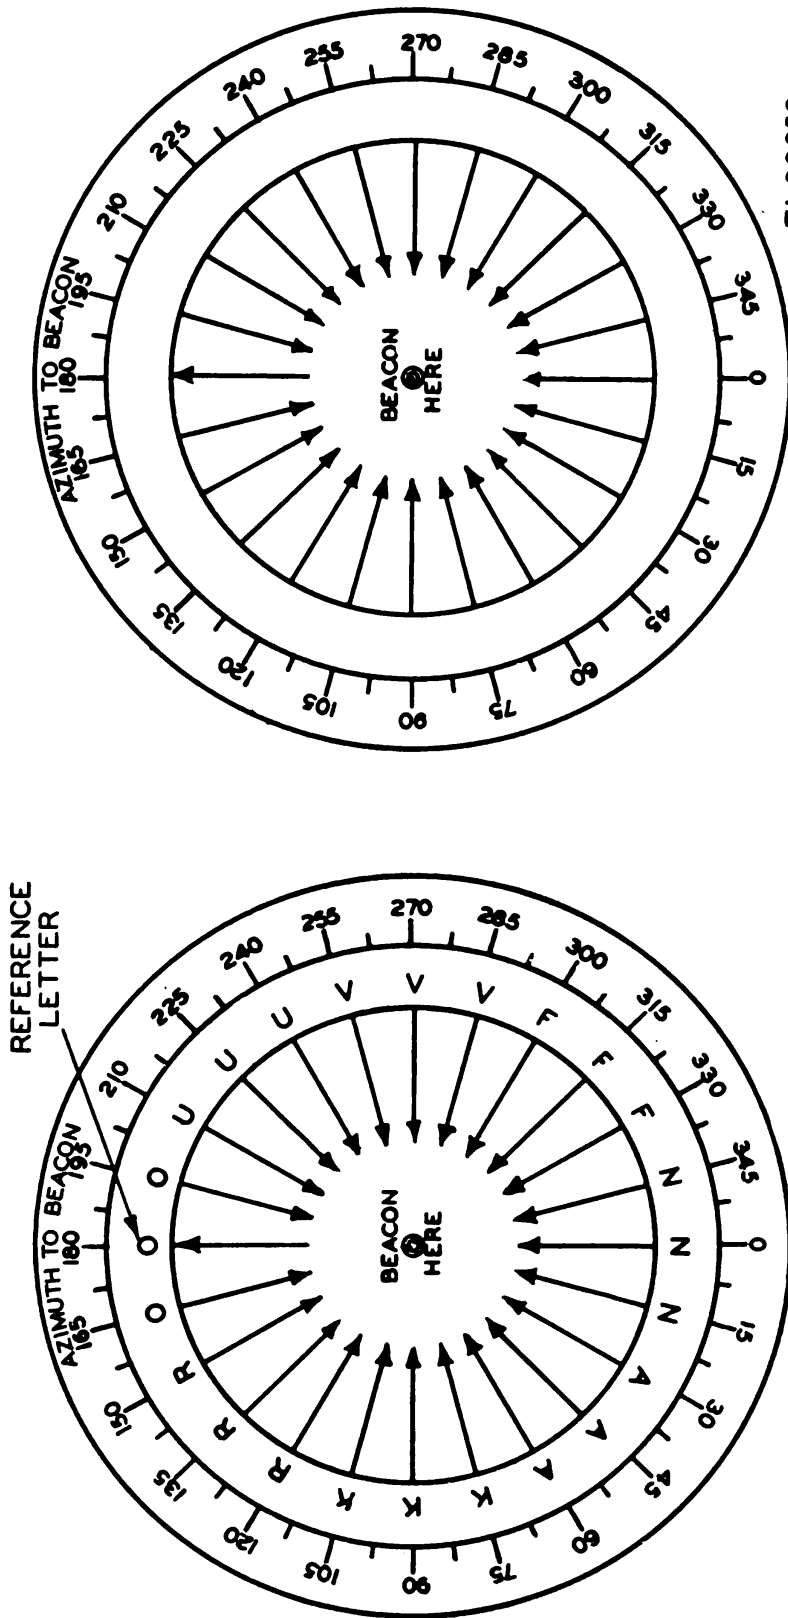

Figure 34. Homing disc.
b. A circular piece of paper showing an azimuth scale with degrees marked in clockwise direction 0-360, in 15° segments, and a compass are the only additional equipment necessary for homing. Figure 34 shows the form required.
(1) These homing discs have been designed to eliminate computation and to give the operator receiving the beacon signal a direct azimuth on which to travel home. For this reason the reference letter which is oriented to North on the beacon, is placed on 180 degrees on the homing disc.
(2) If only the reference letter is known and the characters are copied on the homing disc from signals received in the field, they should be copied in a clockwise direction starting with the reference letter on 180 degrees.
(3) It is best when circumstances permit to use a homing disc with the characters to be received already written in. In case these characters are copied directly from the code disc to be used, and not from radio signals, it is necessary because of the clockwise rotation of the code disc against the fixed point of the keyer contact, to proceed in the following manner: Write in the reference letter (oriented to North on the beacon) on 180 degrees on the homing disc. Following the characters around the code disc in a counterclockwise manner, write them on the homing disc in a clockwise direction.
(a) Thus, using a code disc with characters as shown in figure 34, aligning the null of the antenna array to magnetic north and setting the second letter O
(2) The beacon antenna array rotates in a clockwise direction at approximately $2\frac{1}{2}$ rpm. Eight characters, each repeated 3 times, makes a total of 24 characters transmitted each time the code disc makes a complete rotation. These 24 characters are each centered at intervals of 15° and, varying with the width of the character, provide a calibration for almost the entire 360° . The speed of the transmitted signals is approximately 12 words per minute. Repetition of the characters enables inexperienced operators to follow the signals on the homing disc and receive a bearing.
i. In operation, the heart-shaped pattern revolves with the antenna array, and the white marked crossarm null revolves the full 360° marking each section of the service area. With code disc having characters as shown in figure 34 aligned, as in subparagraph *b(1)(a)* above, a receiver to the north of the beacon would miss the second letter O. A receiver located east of the beacon would miss the second letter K. A receiver south of the beacon would miss the second letter N and a receiver west of the beacon would miss the second letter V.